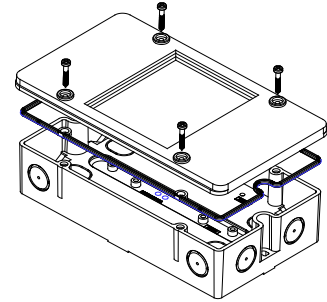

Fig. 4
- Fix the lid additionally with four screws (Fig. 4). (Only this way is IP protection guaranteed.)